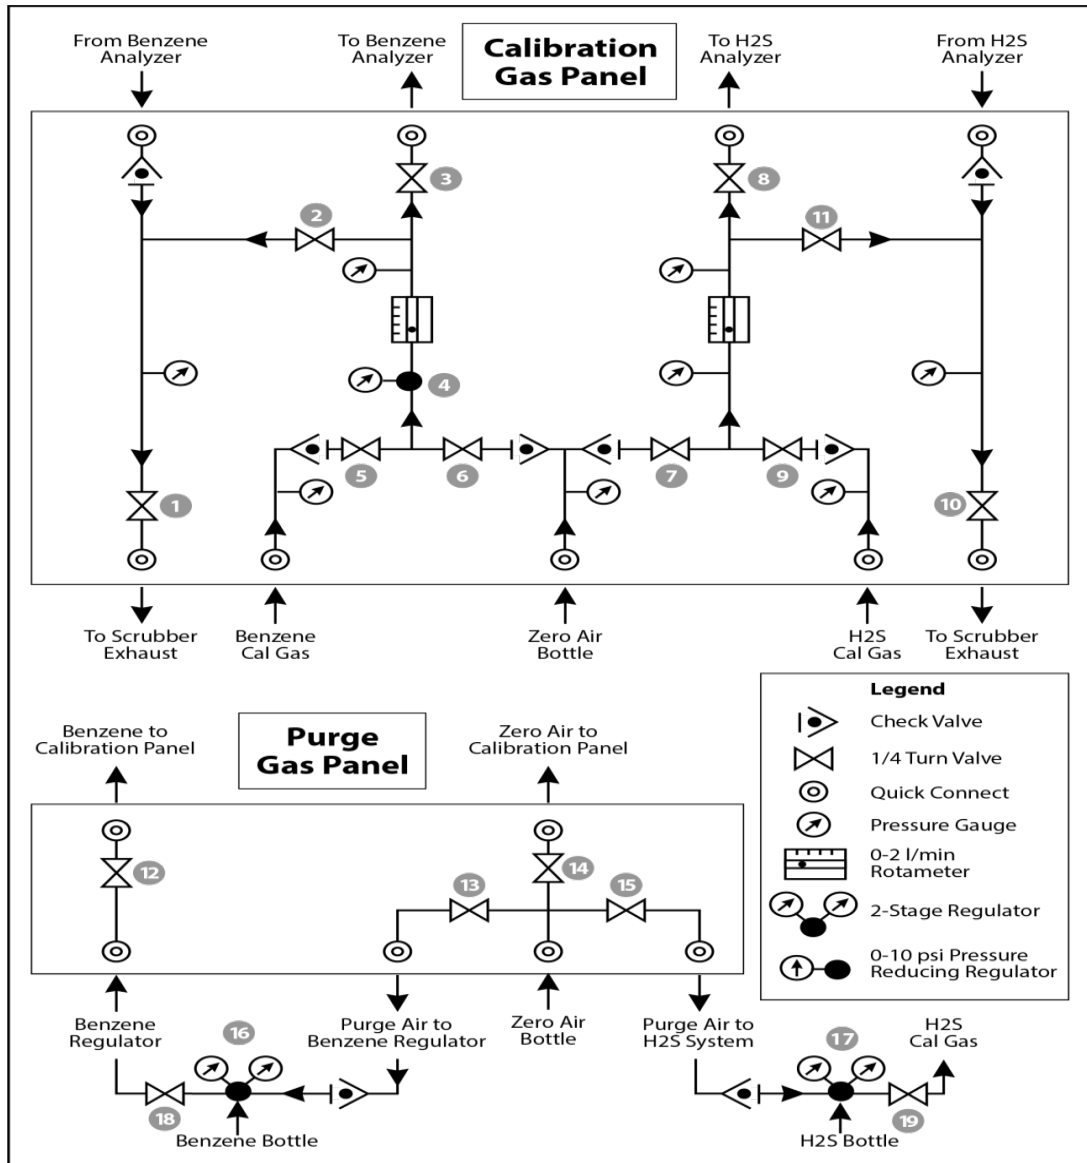

Figure 13. Diagram of the calibration gas panel (top) and purge gas panel (bottom) used for gas delivery.
Verify the system is set up (minus the instrument connections) as depicted in **Figure 13**.
1. Ensure all the tubing from the purging panel is connected to the calibration panel. Ensure gas cylinders are connected to the purge panel as depicted in Figure 13. Then attach the calibration panel to the analyzer connection in the analyzer shelter.
6. Open valve (14) and slowly open the regulator on the zero air cylinder to a pressure of 5-10 psi, observed on the calibration panel zero gas pressure gauge. Do this by making small adjustments at the cylinder regulator and watching the pressure on the calibration panel.
7. Open valve (12) and slowly open the regulator on the benzene cylinder to a pressure of 5-10 psi on the pressure gauge on the benzene calibration gas channel of the panel. Do this by making small adjustments at the cylinder regulator and watching the pressure on the calibration panel.
8. Open the bypass valve (2).
9. Open zero air valve (6) and slowly open the regulator to a final pressure of about 2 psi (as